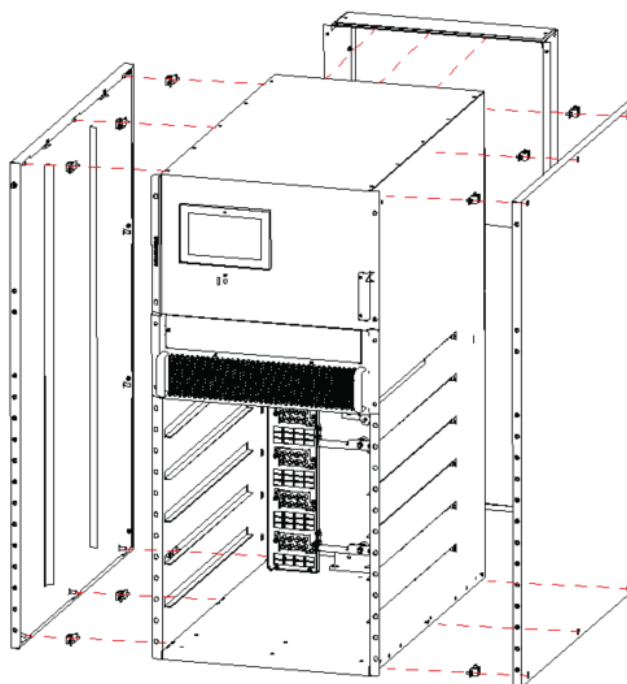

Figure 3-7 Installation schematic diagram
2. Remove the cabinet side door, lower inlet wire frame and its accessories, as shown in Figure 3-7.